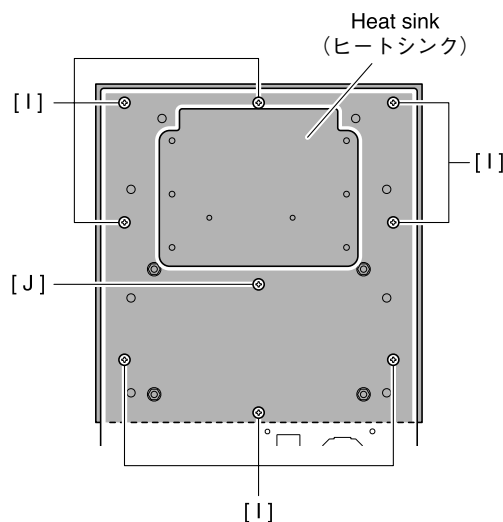

Fig. 11 (図 11)
- 7-4 Remove the eight (8) screws marked [I] and screw marked [J]. The heat sink can then be removed. (Fig. 11)
- 7-4 [I]のネジ8本と[J]のネジを外し、ヒートシンクを外します。(図11)